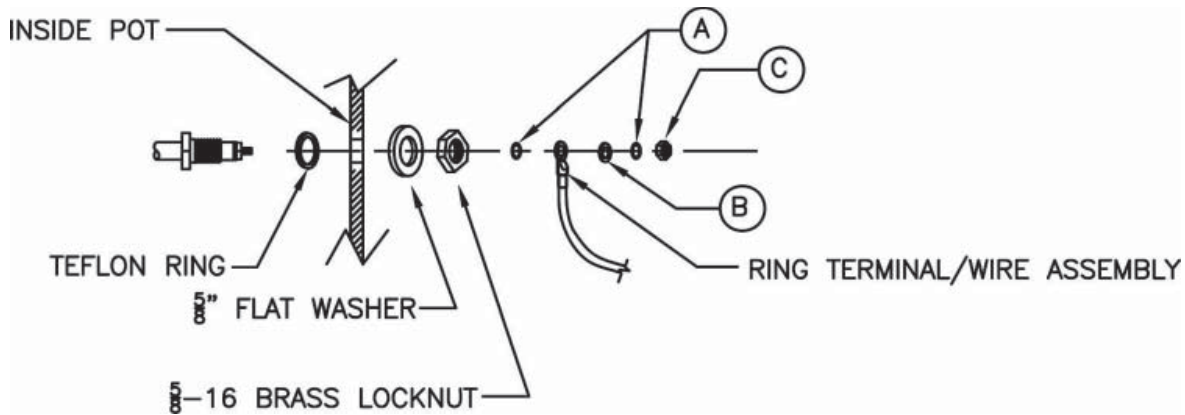

Figure 1
8. Install the hardware in the following order (See Figure 1):